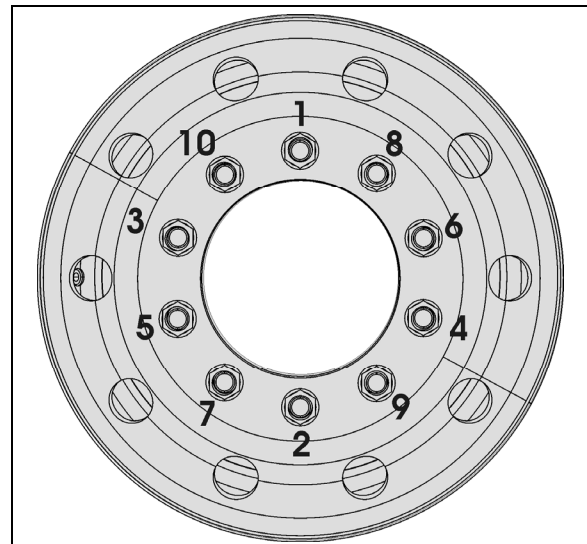

FIGURE 2: TIGHTENING SEQUENCE
It is also important that wheel stud nuts be tightened alternately on opposite sides of the wheel. Refer to Figure 2 for the suggested tightening sequence.
Tighten stud nuts progressively as shown in Figure 2. The final tightening should be done with a torque wrench. Tighten stud nuts to 450 - 500 lbf-ft (610 - 680 Nm) for steel wheels.
2. Screw in the hex stud nuts (refer to Figure 2 for sequence) so that wheel will position itself concentrically with hub. This is important, otherwise wheel may be eccentric with hub and will not run straight. In this initial step, slightly tighten the nuts to correctly position the wheel;
3. Tighten stud nuts progressively as shown in Figure 2. The final tightening should be done with a torque wrench. Tighten stud nuts to 450 - 500 lbf-ft (610 - 680 Nm) for all steel wheel.
With inner and outer wheels installed, tighten the stud nuts progressively as shown in Figure 2. The final tightening should be done with a torque wrench. Tighten stud nuts to 450 - 500 lbf-ft (610 - 680 Nm) for all steel wheel.
Repeat for each of the 10 "hex stud nuts" according to the tightening sequence in figure 2.